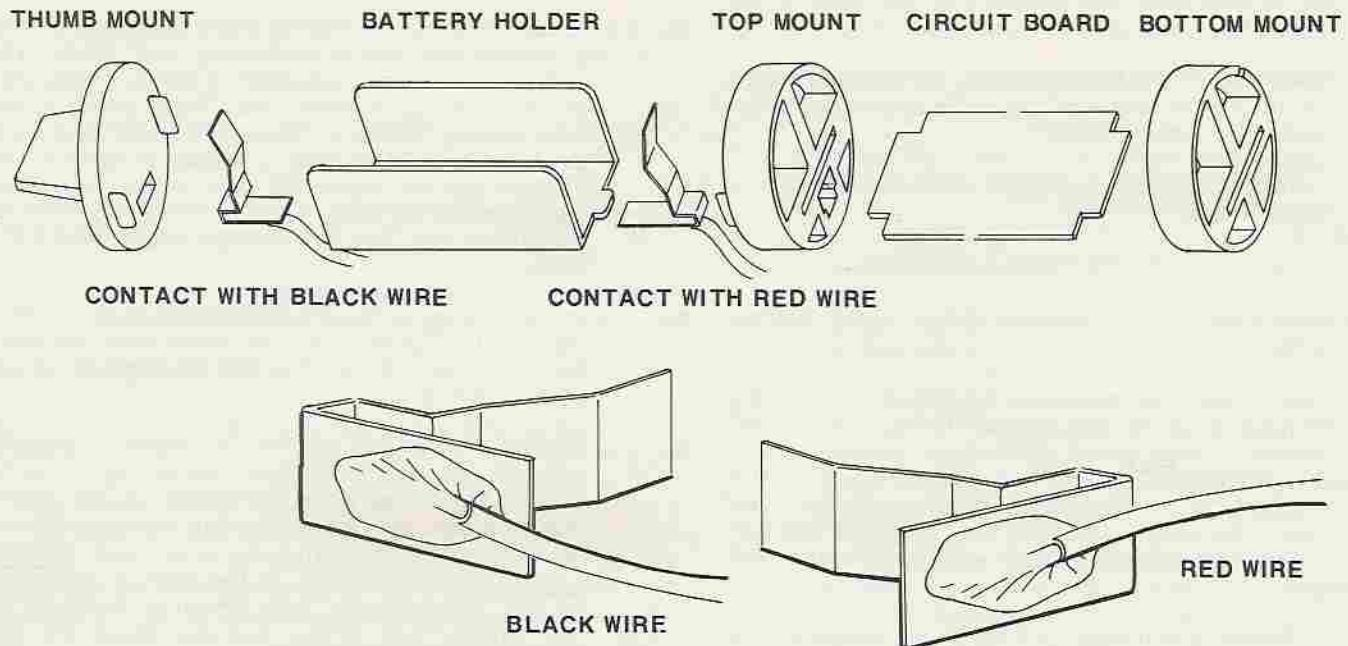

FIG. 4 ASSEMBLY OF TRANSROC BATTERY HOLDER
Upon completion of the parts inventory, you are ready to assemble the battery cup. This should be completed before the parts are soldered to the PC board so that the plastic cement used in the assembly of the battery cup can be allowed to set and harden. Refer to Figure 4 as you perform the following steps. Check off each step as it is completed.
3. () Tin both the brass battery contacts in the area where the wires will be attached. See Figure 4. Use a liberal amount of solder (an extra drop or two).
5. () Holding the black wire in one hand and the soldering iron in the other, join the wire to the brass contact by simultaneously heating the pretinning solder on both, causing it to flow together. Note from Figure 4 the direction in which the black wire leads away from the brass contact.
7. () Hold the red wire in one hand and the soldering iron in the other. Complete the soldering of the wire to the brass contact by simultaneously heating the previously applied solder on both, causing it to flow together. Note from Figure 4 that the red wire leads away from its brass contact in a different direction than does the black wire.